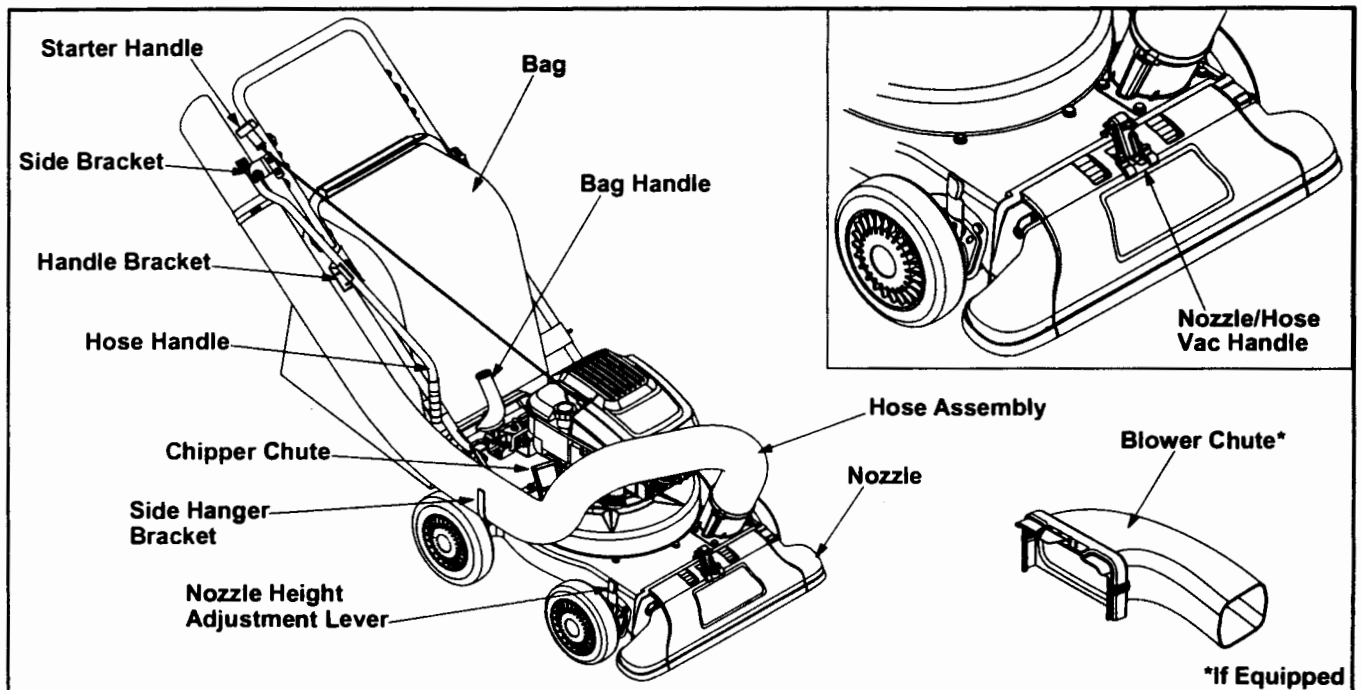

Figure 6
- Connect the hose handle near nozzle end of hose to the side bracket on the upper handle. Refer to Figure 6.
- Snap hose handle to the lower handle bracket to secure in place and lay hose tubing on side hanger bracket next to chipper chute. Refer to Figure 6.
Read this operator's manual and safety rules before operating your Yard Vacuum. Compare the illustrations in Figure 6 with your unit to familiarize yourself with the location of various controls and adjustments.
Locking Rod: Lubricate the locking rod with light oil to ease the application of attaching on or removing bag or blower chute (if equipped). Refer to Figure 6.
Nozzle/Hose Vac Handle: Lubricate the nozzle/hose vac handle on top of nozzle once a season with light oil. Refer to Figure 6.
Wheels: Lubricate each wheel shoulder screw once a season with light oil. Refer to Figure 6.
Nozzle height adjustment levers: Lubricate the pivot points of the nozzle height adjustment levers once a season with light oil. Refer to Figure 6.